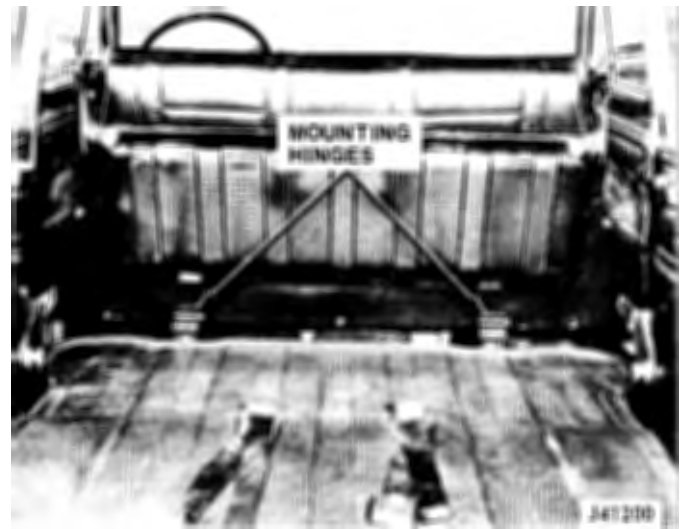

Fig. 19-5 Rear Seat Assembly
- (1) Release latch at lower right side of seat back. Raise complete seat assembly forward (fig. 19-5).
- (2) Lift complete seat assembly from two floor mounting hinges.
- (3) Remove seat assembly from vehicle.